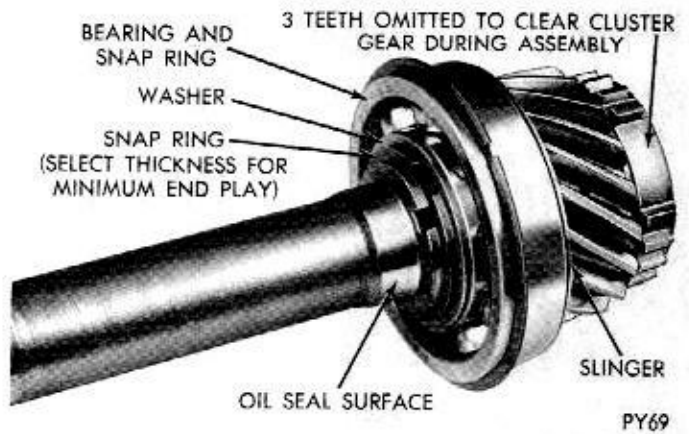

Fig. 17—Drive Pinion Assembly
(1) Remove bolts that attach drive pinion bearing retainer to case, then slide retainer off the pinion. Pry seal out of retainer, using a suitable tool. To avoid leakage around the new seal, do not nick or scratch the bore in which the seal is pressed, or the surface on which seal bottoms.
(2) Rotate drive pinion so that the omitted clutch tooth area (Fig. 17) is next to countershaft gear for removal clearance.
(4) Remove snap ring (Fig. 17), which locks bearing on pinion shaft. Remove pinion bearing washer, then carefully press pinion shaft out of bearing, using an arbor press. Remove oil slinger.